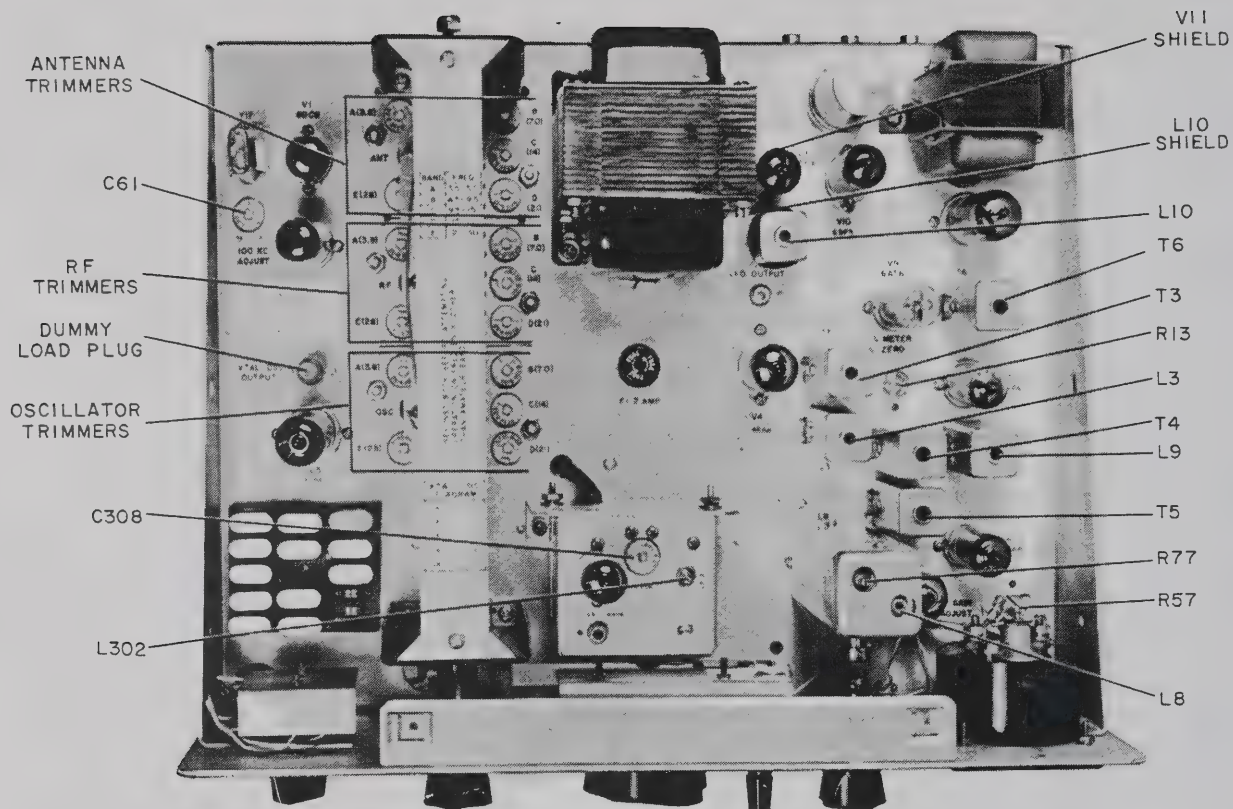

Figure 4-1. Location of Adjustments
Complete alignment of the receiver may be accomplished using the crystal calibrator as a signal source and the S-meter as a peak indicator. To provide a variable output attenuator for the calibrator, connect a .001-uf capacitor to one end of a 5000-ohm carbon potentiometer. Temporarily connect the free end of the capacitor to tube socket terminal 5 of V1, the crystal calibrator. Connect the rotating contact of the potentiometer to ground. Figure 4-1 shows the location of adjustments except for the filter input and output trimmer capacitors. These trimmers are located under the chassis adjacent to the mechanical and crystal filters. The
b. Set both A (3.8) RF and ANT trimmer capacitors so the large notches point to approximately 2 o'clock when viewed as shown in figure 4-1. Set the A (3.8) OSC trimmer so the large notch points to the rear of the chassis.
f. Adjust E (28) OSC, RF, and ANT trimmer capacitors for peak S-meter reading. Adjust OSC trimmer first.
h. Adjust D (21) OSC, RF, and ANT trimmers for peak S-meter reading. Adjust OSC trimmers first.
j. Adjust C (14) OSC trimmer for peak S-meter reading.
l. Adjust C (14) RF and ANT trimmers for peak meter reading. Maintain S-3 signal level.